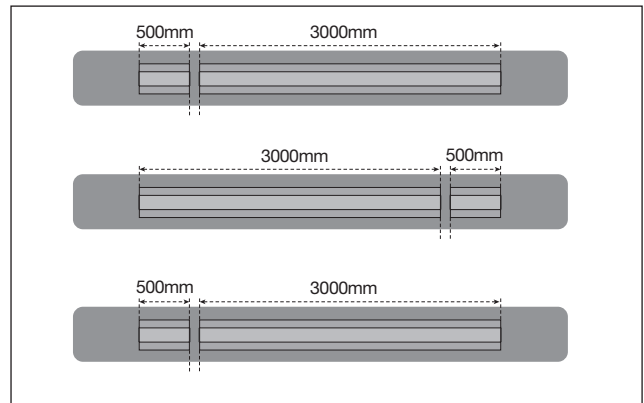

Figure 4
- 0.5m is the minimum allowable length, where extended onto a multiple PV arrangement row - **see figure 4.**